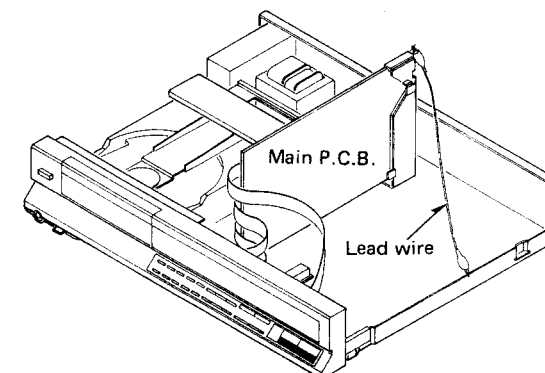

Fig. 23
- (1) Remove the front panel and main P.C.B.
- (2) Place the main P.C.B. as shown in Fig. 23.
Note: When checking as in Fig. 23, be sure to connect the ground spring of main P.C.B. to the chassis lead wire.